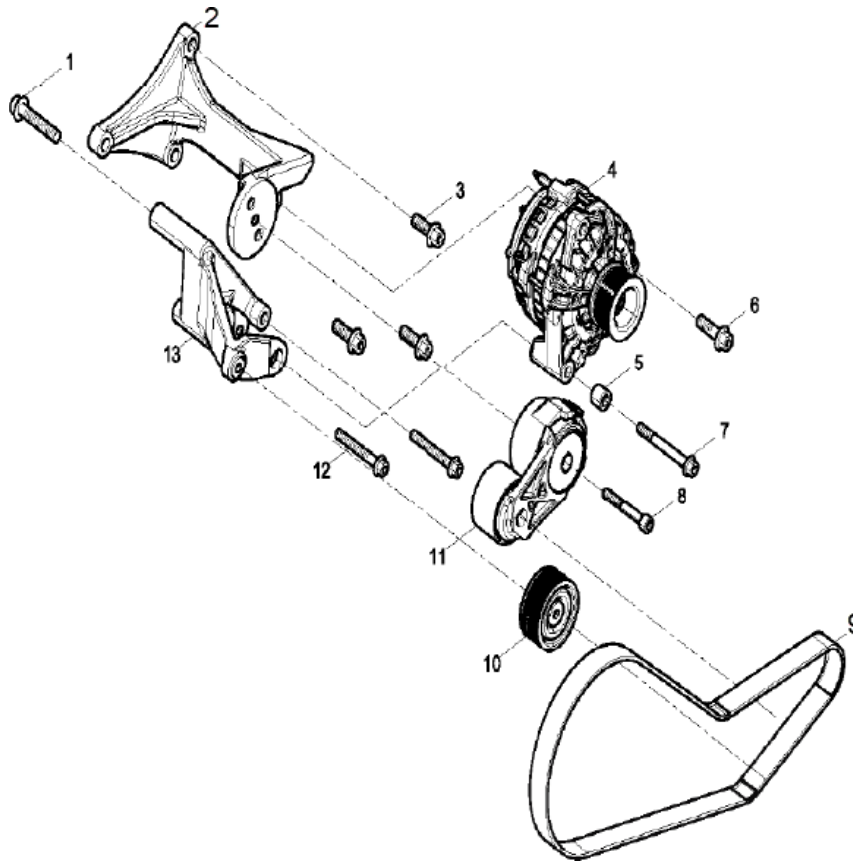

Figure 170. Alternator Assembly
3. Insert a ½" ratchet or breaker bar into the belt tensioner hole (Figure 170, Item 11) and pull to relieve the bolt tension. Slip the belt (Figure 170, Item 9) off the tensioner pulley and remove from the engine.
4. Loosen and remove both bolts (Figure 170, Items 6 & 7) and remove the sleeve (Figure 170, Item 5) if necessary.
5. Remove the alternator (Figure 170, Item 4).
1. Place the alternator (Figure 170, Item 4) onto the bracket (Figure 170, Item 13).
2. Insert the sleeve (Figure 170, Item 5) and insert and torque down the two bolts (Figure 170, Items 6 & 7).